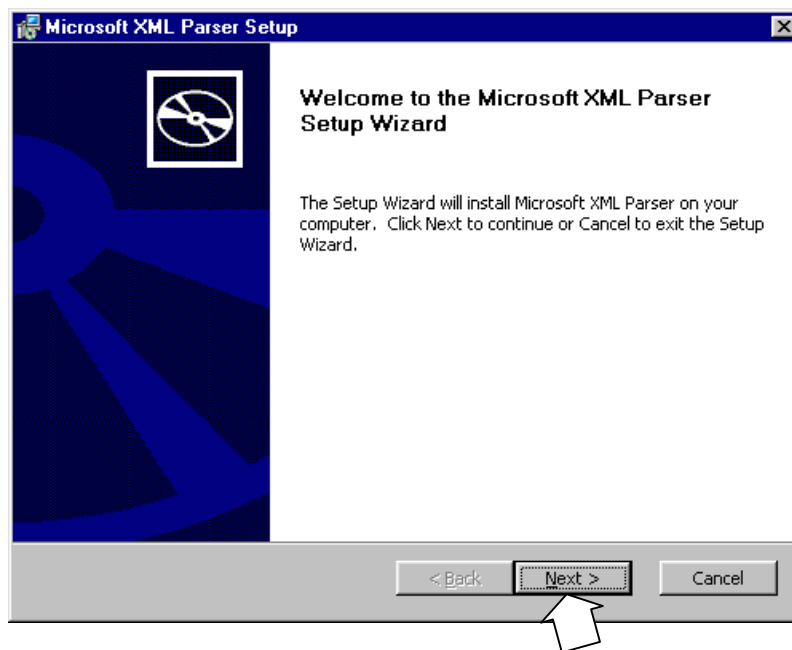

Figure 1-14
- When the Installation Wizard has finished loading a portion of these files, the “Microsoft XML Parser Setup” window is displayed (figure 1-14). Click on **Next >** to continue.